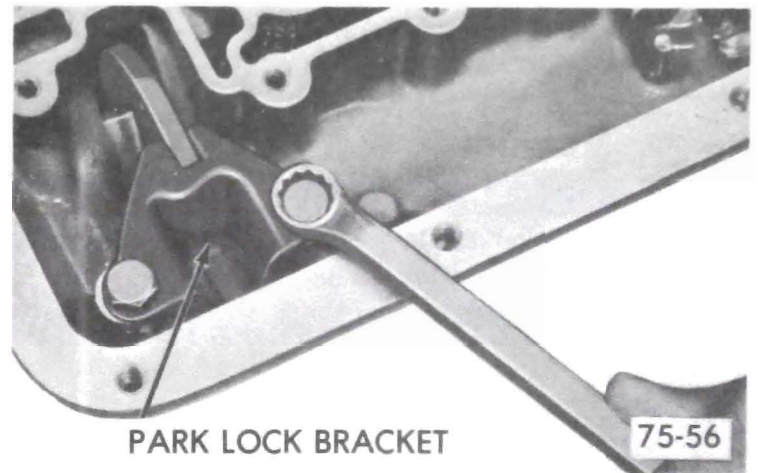

Figure 75-86
6. Removing parking lock bracket. See Figure 75-86.